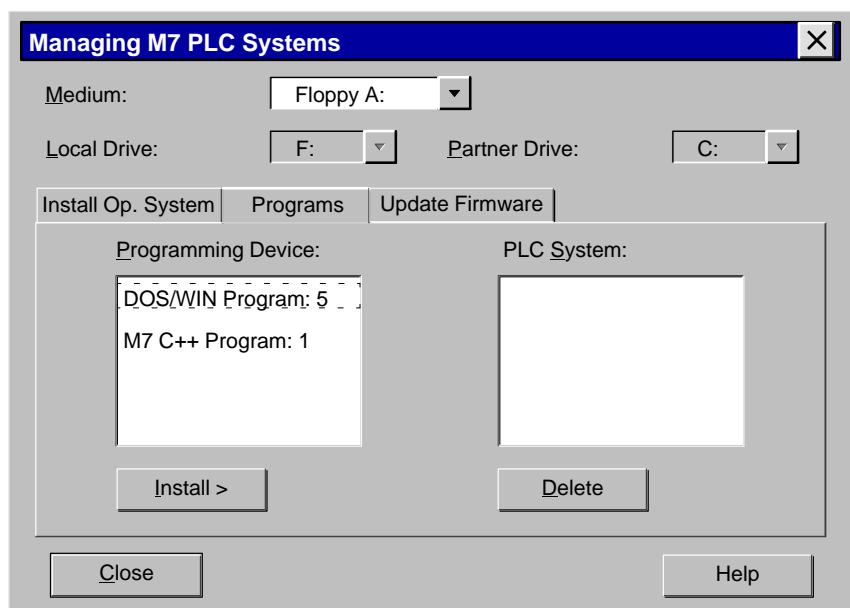

Figure 19-3 “Programs” Tab
4. Make the following selections (see Figure 19-3):